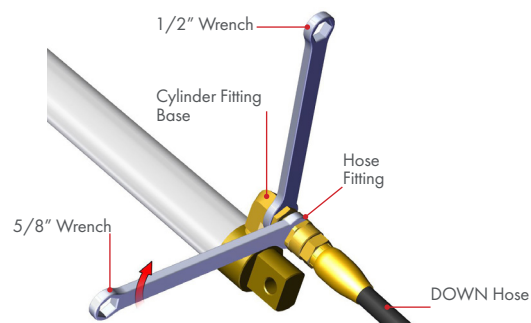

Figure 4
**STEP 4** Cut the (2) **zip ties** with a knife or scissors. **DO NOT** cut through hoses. **FIG 4**
**STEP 9** Repeat **STEPS 7 & 8** for the **DOWN hose** (on top u-channel). **FIG 4**